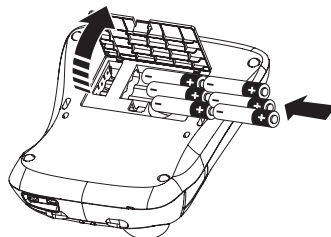

Figure 2
1. Remove the battery compartment cover. See Figure 2.